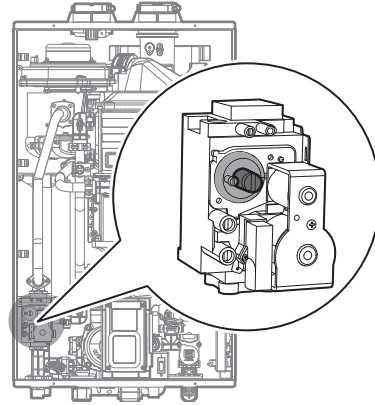

Figure 10
- c. Fully open a hot water fixture and set the water heater to operate at 1-stage MIN mode (refer to page 59). Measure the offset value at low fire and compare it to the values in Table 3. If the offset value is out of range, the gas valve set screw will need to be adjusted. If adjustment is necessary, locate the set screw as shown in Figure 10. Using a 5/32 in or 4 mm Allen wrench, turn the set screw no more than 1/4 turn clockwise to raise or counterclockwise to lower the offset value.